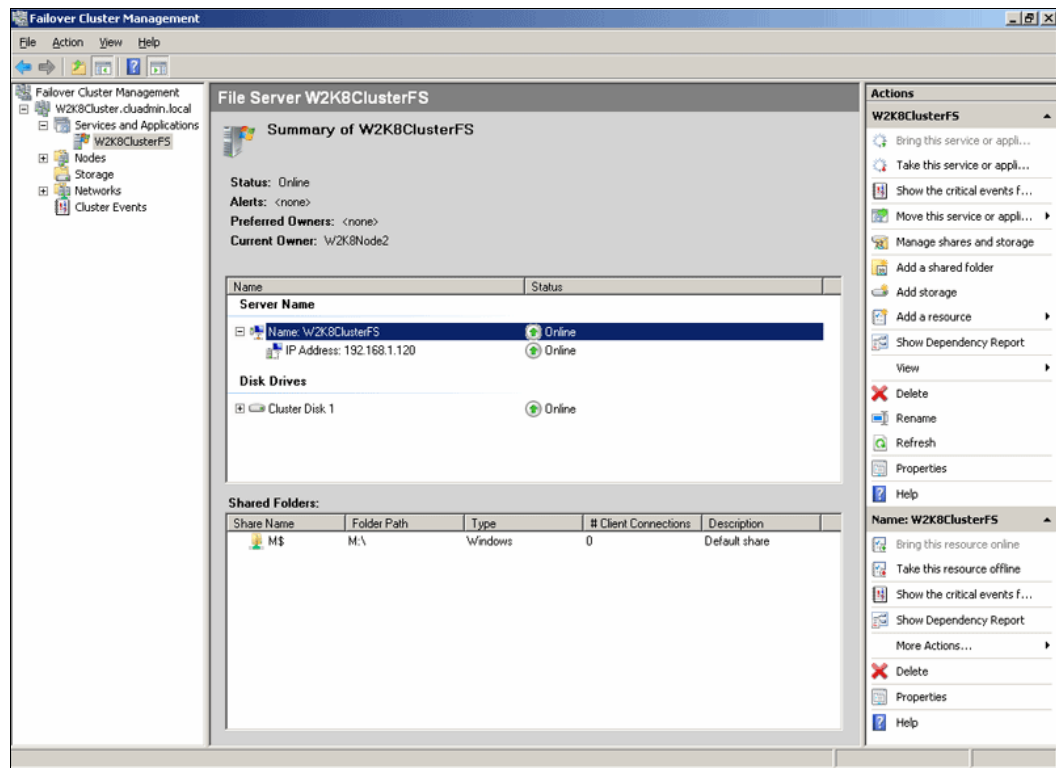

Figure 19-33 File Server Cluster Configuration Summary
11. Figure 19-33 on page 582 shows our just-created **File Server cluster** in **Failover Cluster Management** console.